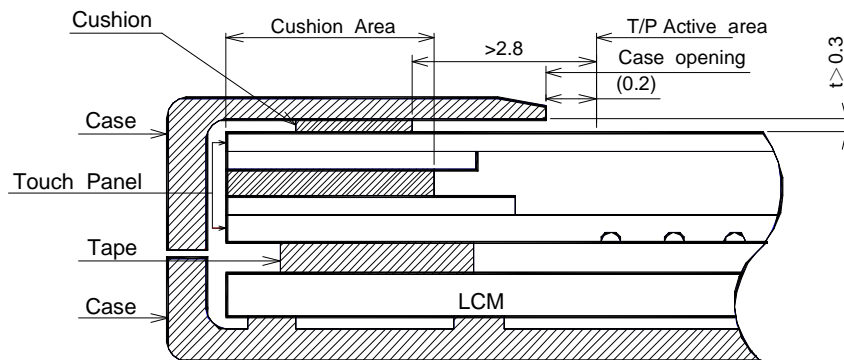

Fig. 13.1
- 1) Please refer to Fig. 13.1 for housing the display with touch panel into applications. The Fig. 13.1 shows some points as below:
- 1) The lot mark is showing in Fig.13.1. First 4 digits are used to represent production lot, T represented made in Taiwan, and the last 6 digits are the serial number.